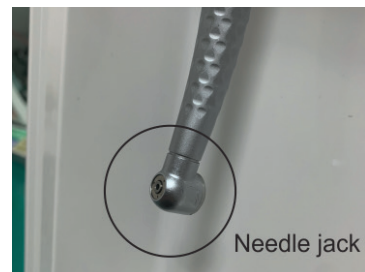

Figure 10
3. When installing, "please turn the pin jack of the angled handpiece towards the door cover, and carefully close the door cover (as shown in Figure 10)